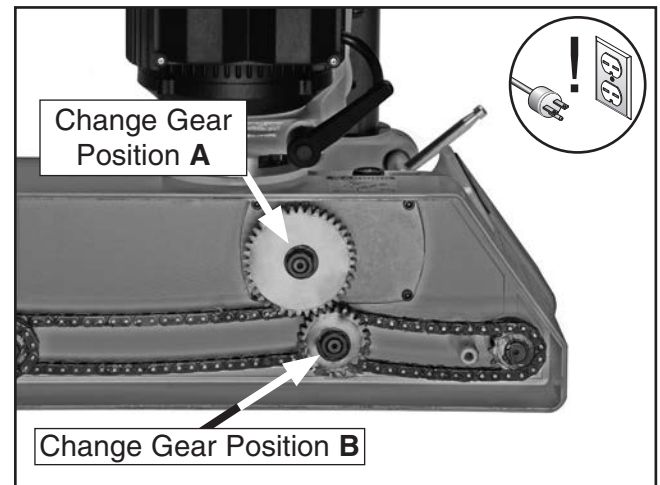

Figure 17. Change gear locations.
3. Remove chain cover and two hex nuts securing **A** & **B** change gears to shafts shown in **Figure 17**.
5. Swap change gears so gear hubs face in toward power feeder (shown in positions **A** & **B** in **Figure 17**).